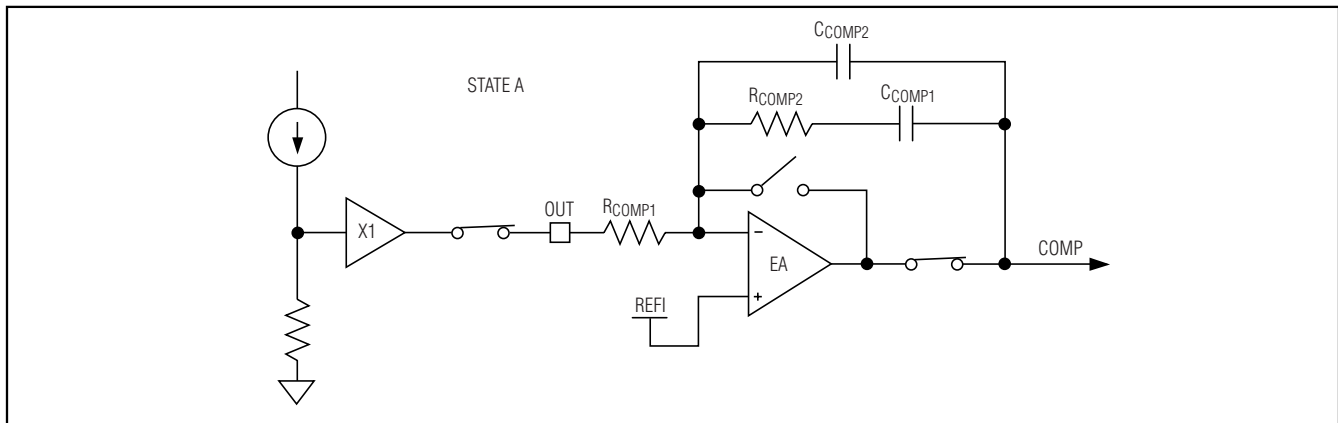
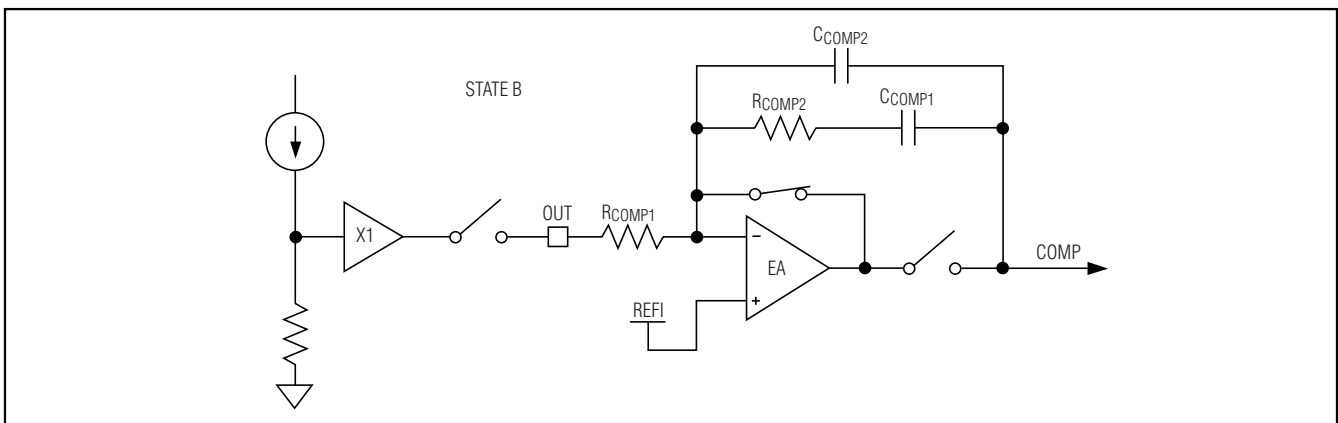
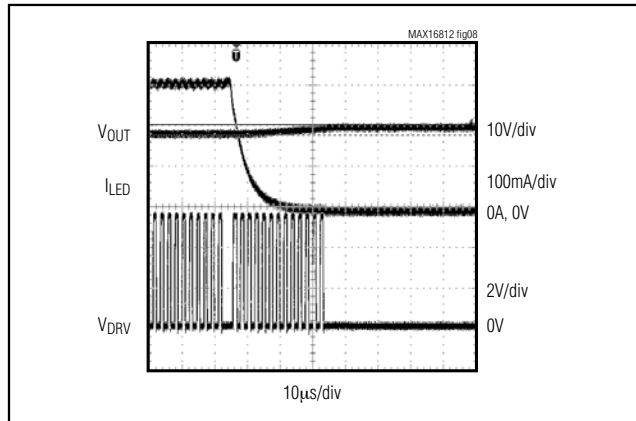

Figure 4. Internal Error Amplifier Connection (Dimming Signal High)
Figure 5. Internal Error Amplifier Connections (Dimming Signal Low)
Figure 8. LED Current, Output Voltage, and DRV Waveforms when DIM Signal Goes Low
The MAX16812 includes a built-in voltage-error amplifier, which can be used to close the feedback loop. The internal LED current-sense output signal is buffered internally and then connected to CS_OUT through an internal switch. CS_OUT is connected to the inverting input (FB) pin of the error amplifier through a resistor. See Figures 4 and 5. The reference voltage for the output current is connected to REFI, the noninverting input of the error amplifier. When the internal dimming signal
is low, COMP is disconnected from the output of the error amplifier and CS_OUT is simultaneously disconnected from the buffered LED current-sense output signal (Figure 5). When the internal dimming signal is high, the output of the op amp is connected to COMP and CS_OUT is connected to the buffered LED current-sense signal at the same time (Figure 4). This enables the compensation capacitor to hold the charge when the DIM signal has turned off the internal switching MOSFET gate drive. To maintain the charge on the compensation capacitors C_{COMP1} and C_{COMP2} , the capacitors should be of the low-leakage ceramic type.
PWM dimming can also be achieved by connecting TGRM to a DC voltage less than V_{REF} and applying the PWM signal at DIM. The moment the internal dimming signal goes low, gate drive DRV to the internal switching MOSFET is turned off. The error amplifier goes to state B (see the *Internal Error Amplifier* section and Figures 4 and 5). The peak current in the inductor prior to disabling DRV is I_{LX} . Gate drive DGT to the external dimming MOSFET is held high. Then after a switchover period, gate voltage V_{DGT} on the external dimming MOSFET is linearly controlled to reduce the LED current to 0. The fall time of the LED current is controlled by an internal timing circuit to $5\mu s$ for the MAX16812. During this period, the gate (DRV) to the internal switching MOSFET is enabled. After the fall time, the gate drive to the external dimming MOSFET is turned off and the gate drive to the internal switching MOSFET is still held high after the switchover period. The peak current in the inductor is controlled at I_{LX} . Then after a time period of $20\mu s$, the gate drive is disabled. The scope shots in Figures 8–11 show the dimming waveforms.
When the DIM signal goes high, the LED current is gradually increased to the programmed value. The rise time of the LED current is controlled to 5 μ s for the MAX16812 by controlling the voltage on DGT. After the rise time, an internal sensing circuit monitors the voltage across the drain to the source of the external dimming MOSFET. The LED current is now controlled at the programmed value by a linear current regulating circuit. Once the voltage across the drain to source of the dimming MOSFET drops below 0.5V, the reference for the linear current regulating circuit is increased to 1.1 times the programmed value. The gate drive (DRV) to the internal switching MOSFET is enabled and the error amplifier is returned to state A (see the *Internal Error Amplifier* section and Figures 4 and 5).